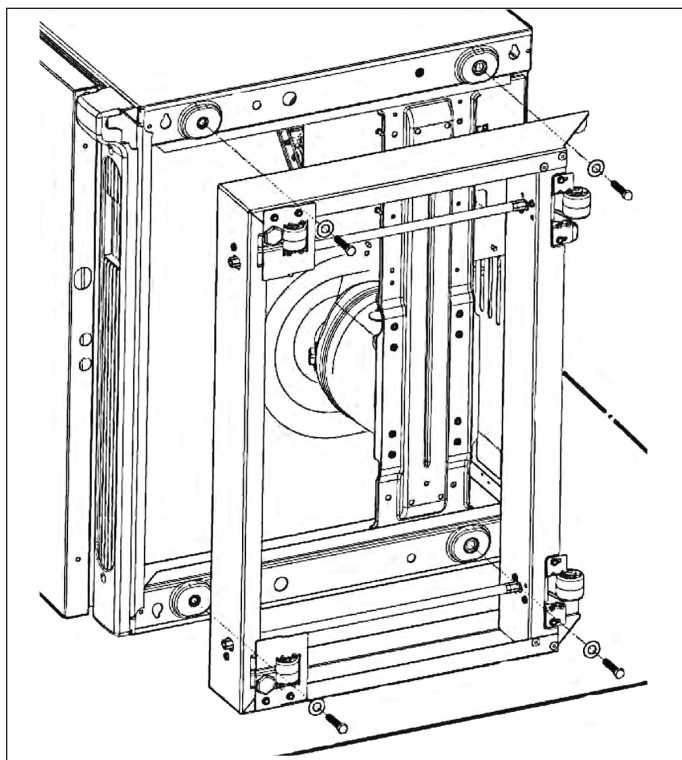

Figure 2-20.
Installing The Riser Kit On Early Models (See Figure 2-20 to identify)
7. Repeat the above procedure for the three remaining attachment points. (See Figure 2-20).